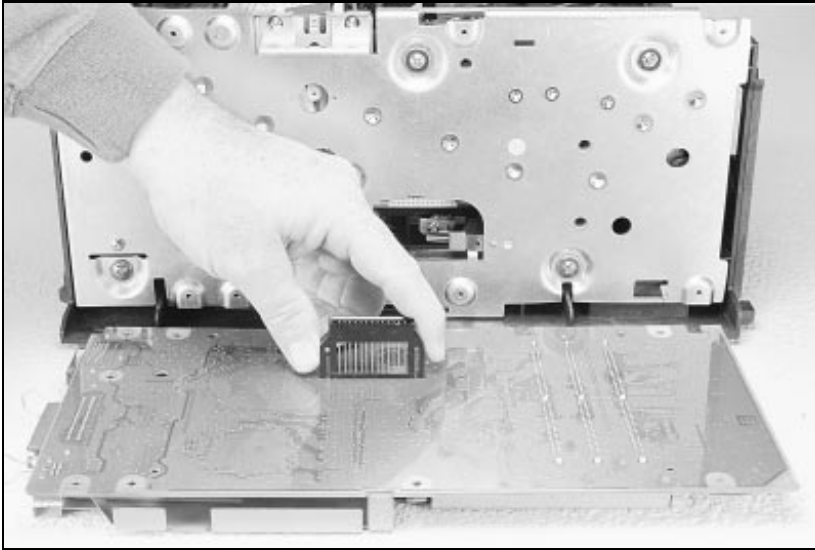

Figure 26 Removing the DC Controller Interconnect.
- 4.** Pull the DC controller interconnect out (Figure 26).
8. Disconnect Tray 1 Interconnect PCA (callout **2** in Figure 26) and cable 302 (callout **1** in Figure 29) from the DC Controller PCA.